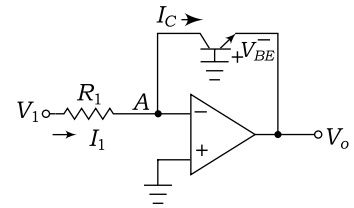

Fig. 7.51 Logarithmic amplifier
Figure 7.51 shows a logarithmic amplifier. In this circuit, collector (C) and emitter (E) terminals are connected between inverting terminal and output. The base of the transistor (BJT) is grounded. The inverting terminal A is virtually ground and $V_A = 0$